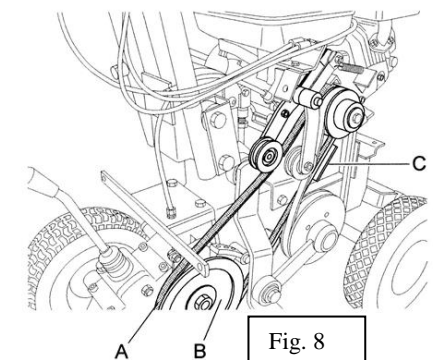

Fig. 8
- Then remove the forward control belt from the lower pulley by turning the belt anticlockwise (Fig. 8 Ref. A e B)
- Afterwards check that the belt is positioned and working correctly using the relative forward control lever. When this lever is lowered and the belt is at maximum tension, the distance between the belt and the relative belt guides (Fig. 8 Ref. C) should be approximately 2 mm.